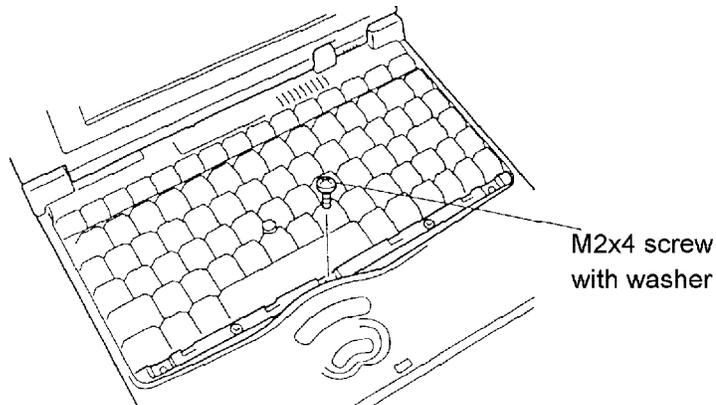

Figure 4-10 Removing one keyboard screw
5. Remove **one M2x4 screw with washer** in front of the keyboard (figure 4-10).
3. Secure **one M2x4 screw with washer** in front of the keyboard (figure 4-10).